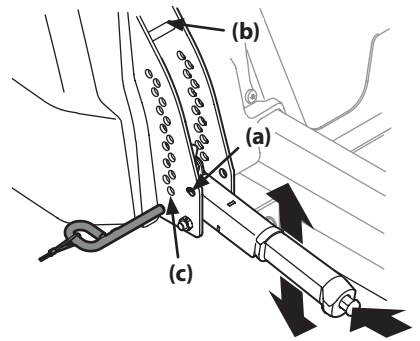

Figure 33
- a. Using the deck lift handle, raise the deck to the DECK REMOVAL/INSTALLATION POSITION (a). See Figure 33.
- d. Lower the deck into the DECK REMOVAL/INSTALLATION POSITION (a) using the deck lift handle. See Figure 33.
- e. Lower the deck into the DECK REMOVAL/INSTALLATION POSITION (a) using the deck lift handle. See Figure 33 on page 23.
1. Place the deck lift handle in the highest mowing position (b). See Figure 33 on page 23.